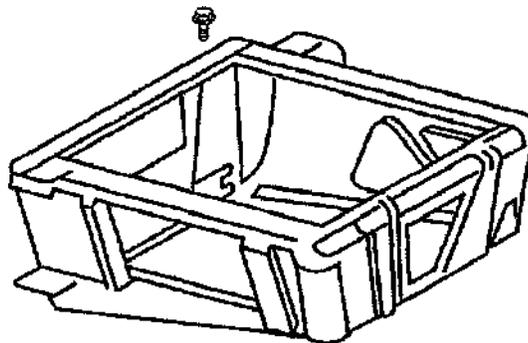

Fig 3, Seat base removal
4. Using a 13 mm socket, remove the passenger side seat base bolts. See **fig.3.** Remove the passenger seat base from the floor.